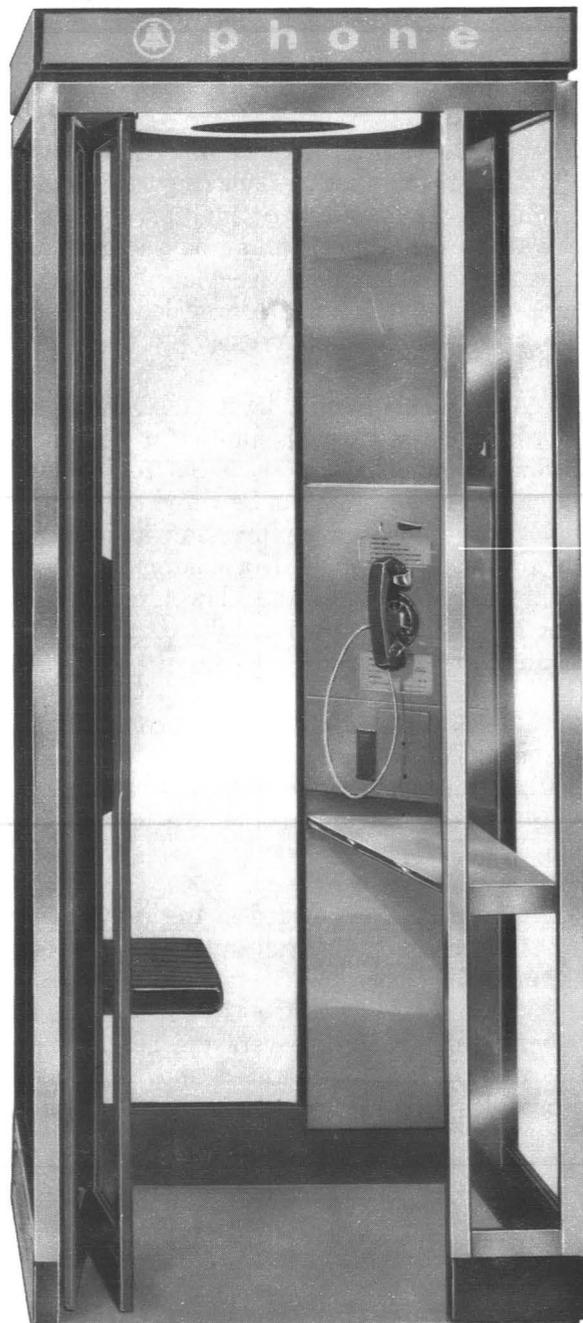

Fig. 1—KS-19442 Deluxe Glass Telephone Booth
1.02 The KS-19442 deluxe glass telephone booth is designed for indoor, sitdown service (Fig. 1). It may be used singly or in various multiple arrangements (side-by-side and/or back-to-back).
2.07 No floor is provided with this booth; however, a KS-19442, List 90 floor (Fig. 1) is available and can be used in single or multiple installations. The walls of the booth must be secured to the surface upon which they are placed if a List 90 floor is not used. Holes are provided in the lower wall extrusions for this purpose.
| KS-19442 | List 1 | Booth (Fig. 1) | Complete booth for single installation |